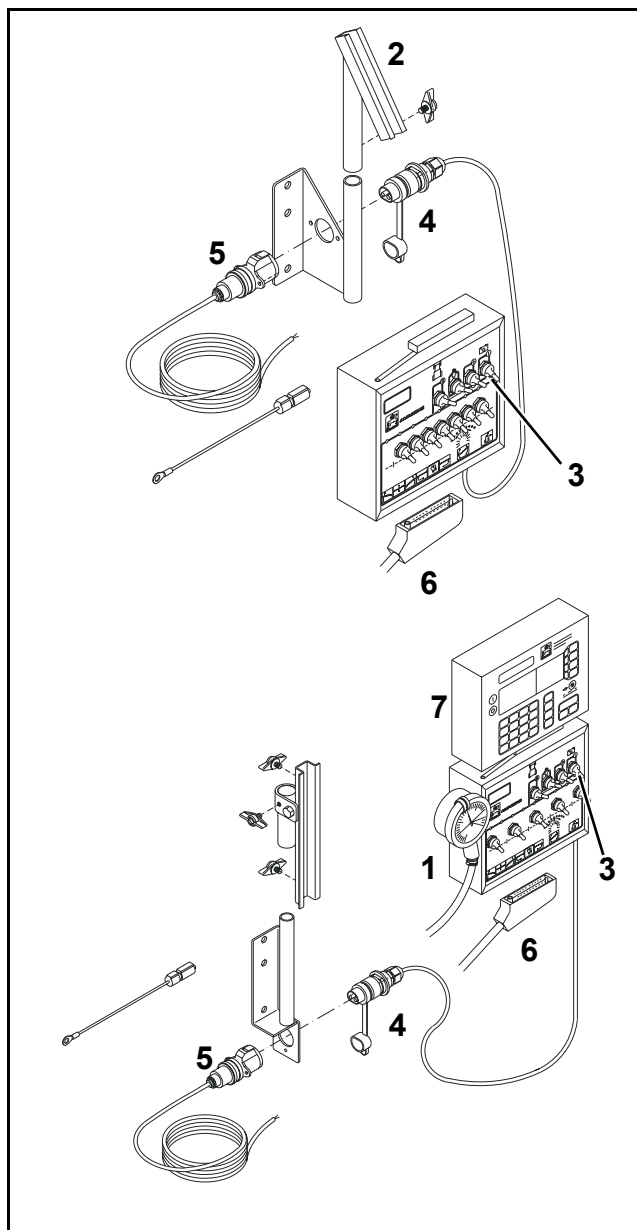

Fig. 23
- Slide the SKS-switch box (Fig. 23/1) into the guide key way of the hat profile rail (Fig. 23/2) and tighten the clamping screws.
• **The on/off switch (Fig. 23/3) for the electric power supply of the switch box should be in position "0" (OFF/AUS) before connecting to the battery.**
- Link up the power supply cable (Fig. 23/4) with the socket (Fig. 23/5) of the battery cable.
- Connect the implement plug (Fig. 23/6) to the implement socket of the control chest (only switch box SKS 90/ 70/ 90).
- Mount the relevant on-board computer (Fig. 23/7) via the 48-pole plug connector on to the switch box.